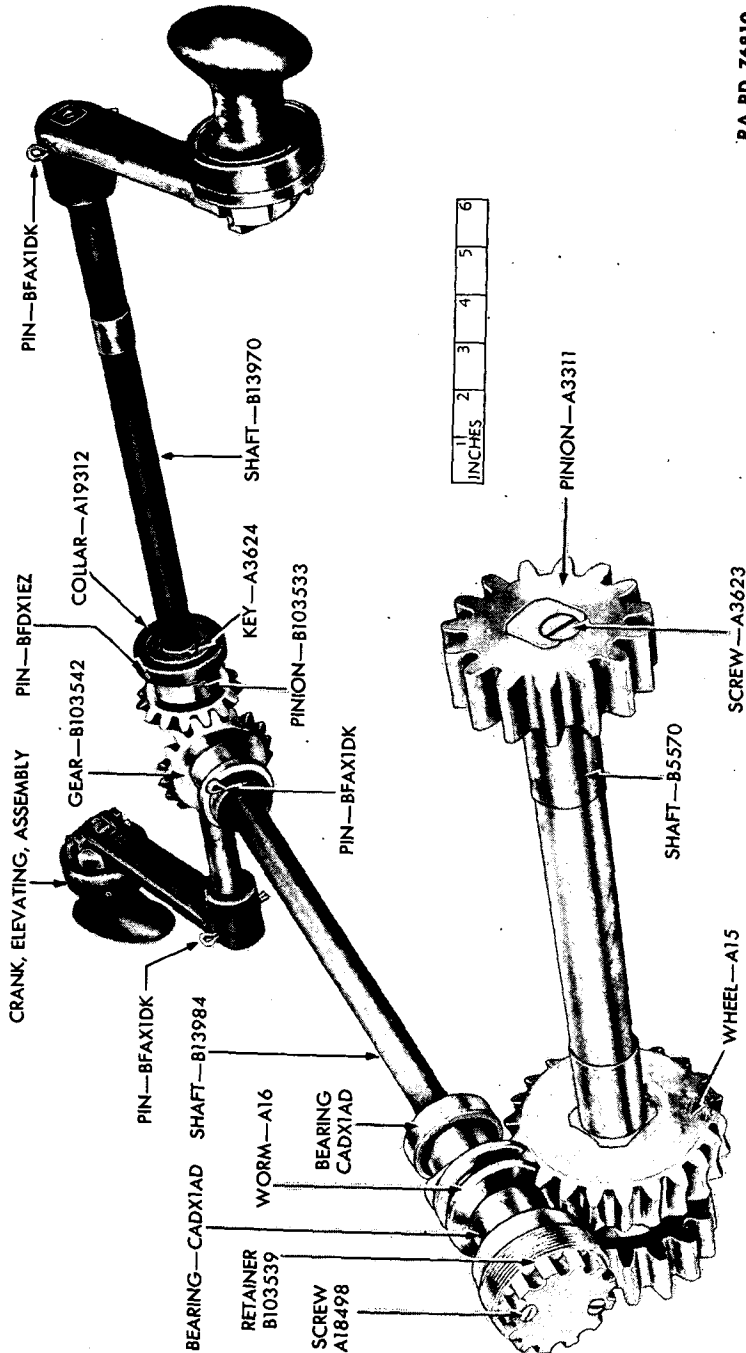

Figure 70—Elevating Mechanism Arrangement
(3) Two elevating cranks, mounted at the ends of a shaft, rotate the pinion shaft through a train of bevel and worm gears (fig. 70).